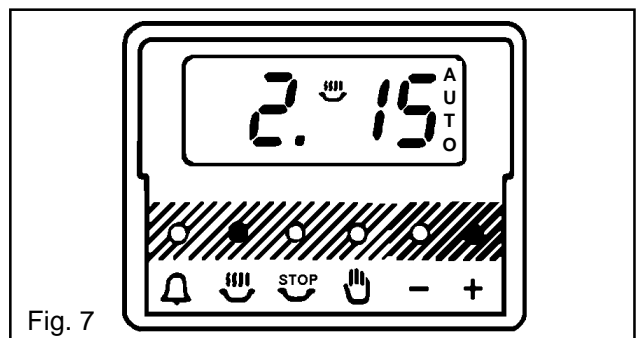

Fig. 7
- iii) To set the length of cooking time, press the cooking hours button (👉) press the increase control (+) until the required length of cooking time is displayed, e.g. 2 hrs 15 mins as Fig. 7. If necessary depress the decrease control (-) until the correct time interval is achieved.